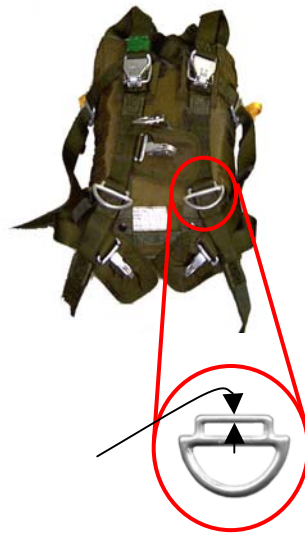

FIGURE 1
- (1) Inspect D-ring to ensure that screw pin threads are not stripped and that the synthetic locking device is present.
- (2) Cut two (2) 24-inch lengths of type II or type III nylon cord removing the core threads and lay off to the side.
- (3) Locate existing D-rings on the main lift web of the parachute harness (left and right). Rotate the D-rings upward exposing the area immediately below the existing D-ring (Figure 1).